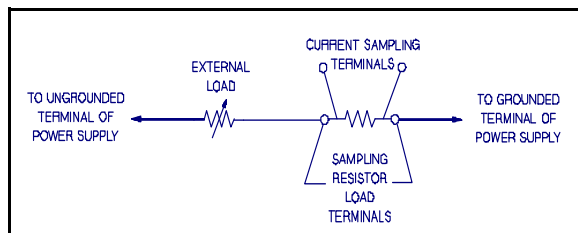

**Figure A-4. Front Panel Terminal Connections**
When performance measurements are made at the front terminals (Figure A-4) the load should be plugged into the front of the terminals at (B) while the monitoring device is connected to a small lead or bus wire inserted through the hole in the neck of the binding post at (A). Connecting the measuring device at (B) would result in a measurement that includes the resistance of the leads between the output terminals and the point of connection.